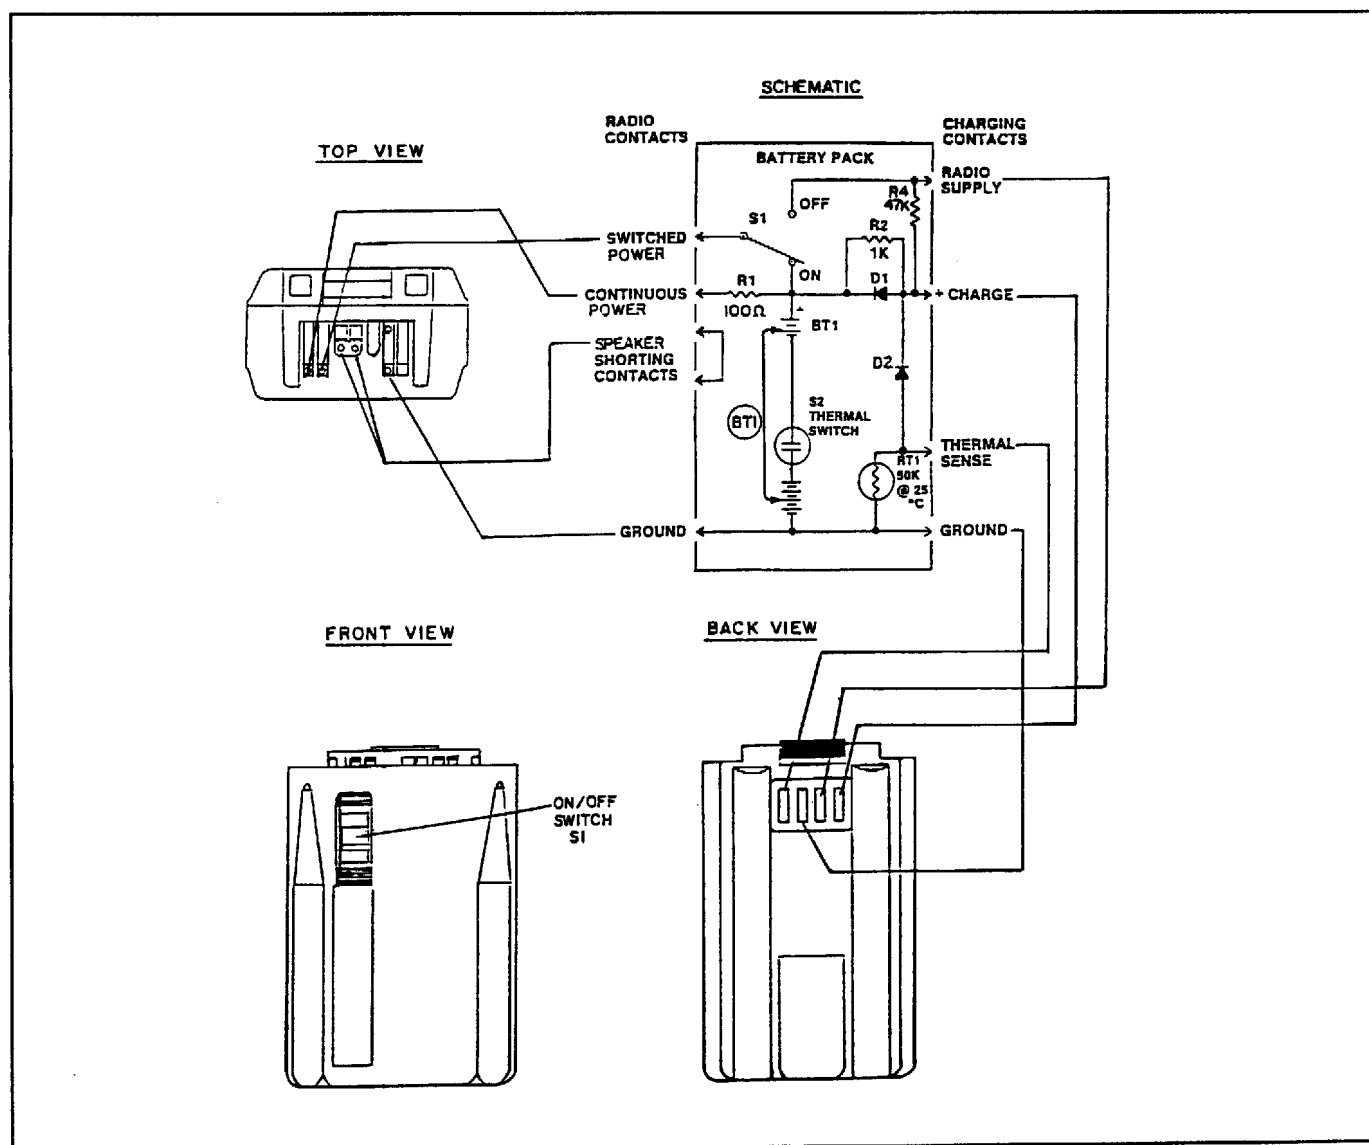

Figure 14 - Battery Packs
Chargers are available with nominal charge times of 1 (rapid) and 14 (standard) hours. Combinations include single (1) and multi (5) position, standard and rapid charge units. The chargers utilize an internal thermistor in the battery pack to sense temperature and automatically control charge rate of the battery. This allows for a maximum charge rate without overheating the battery. All battery packs can be charged in less than 1 1/2 hours with the rapid type chargers. Nominal full charge time in a standard charger is 14 hours. Figure 14 outlines a typical battery pack.